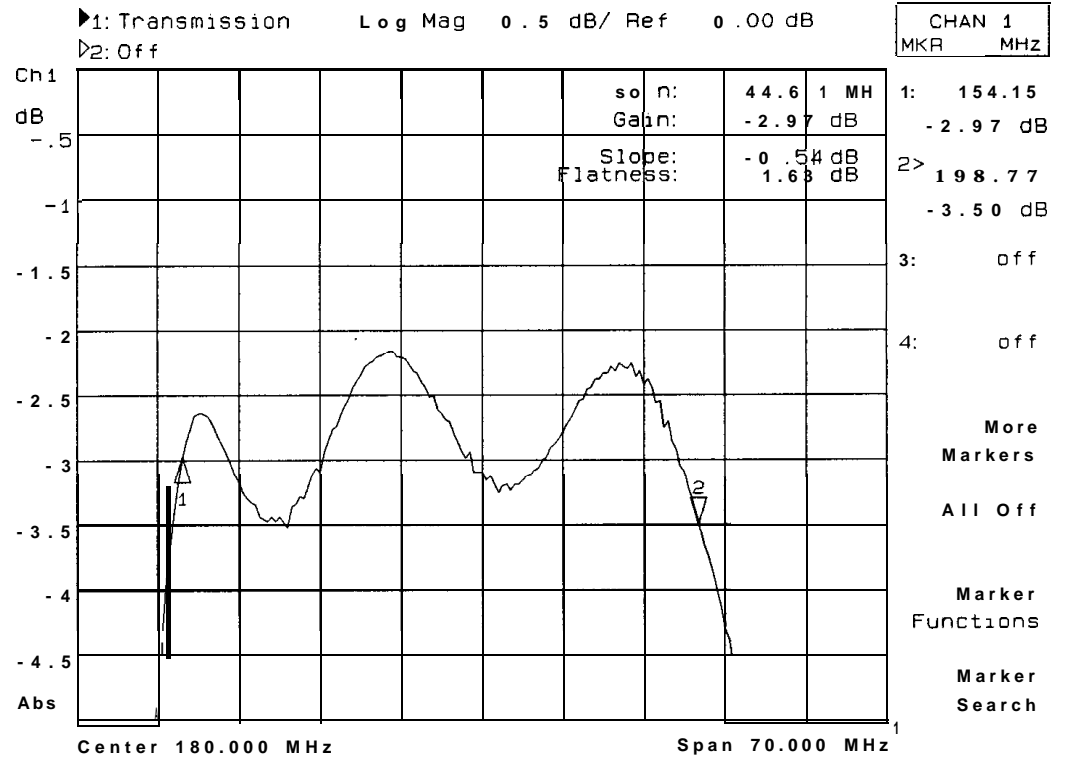

Figure 4-13. Marker Flatness Function
3. Figure 4-13 shows a **defined** trace segment. Notice the marker readout in the upper right corner of the display.